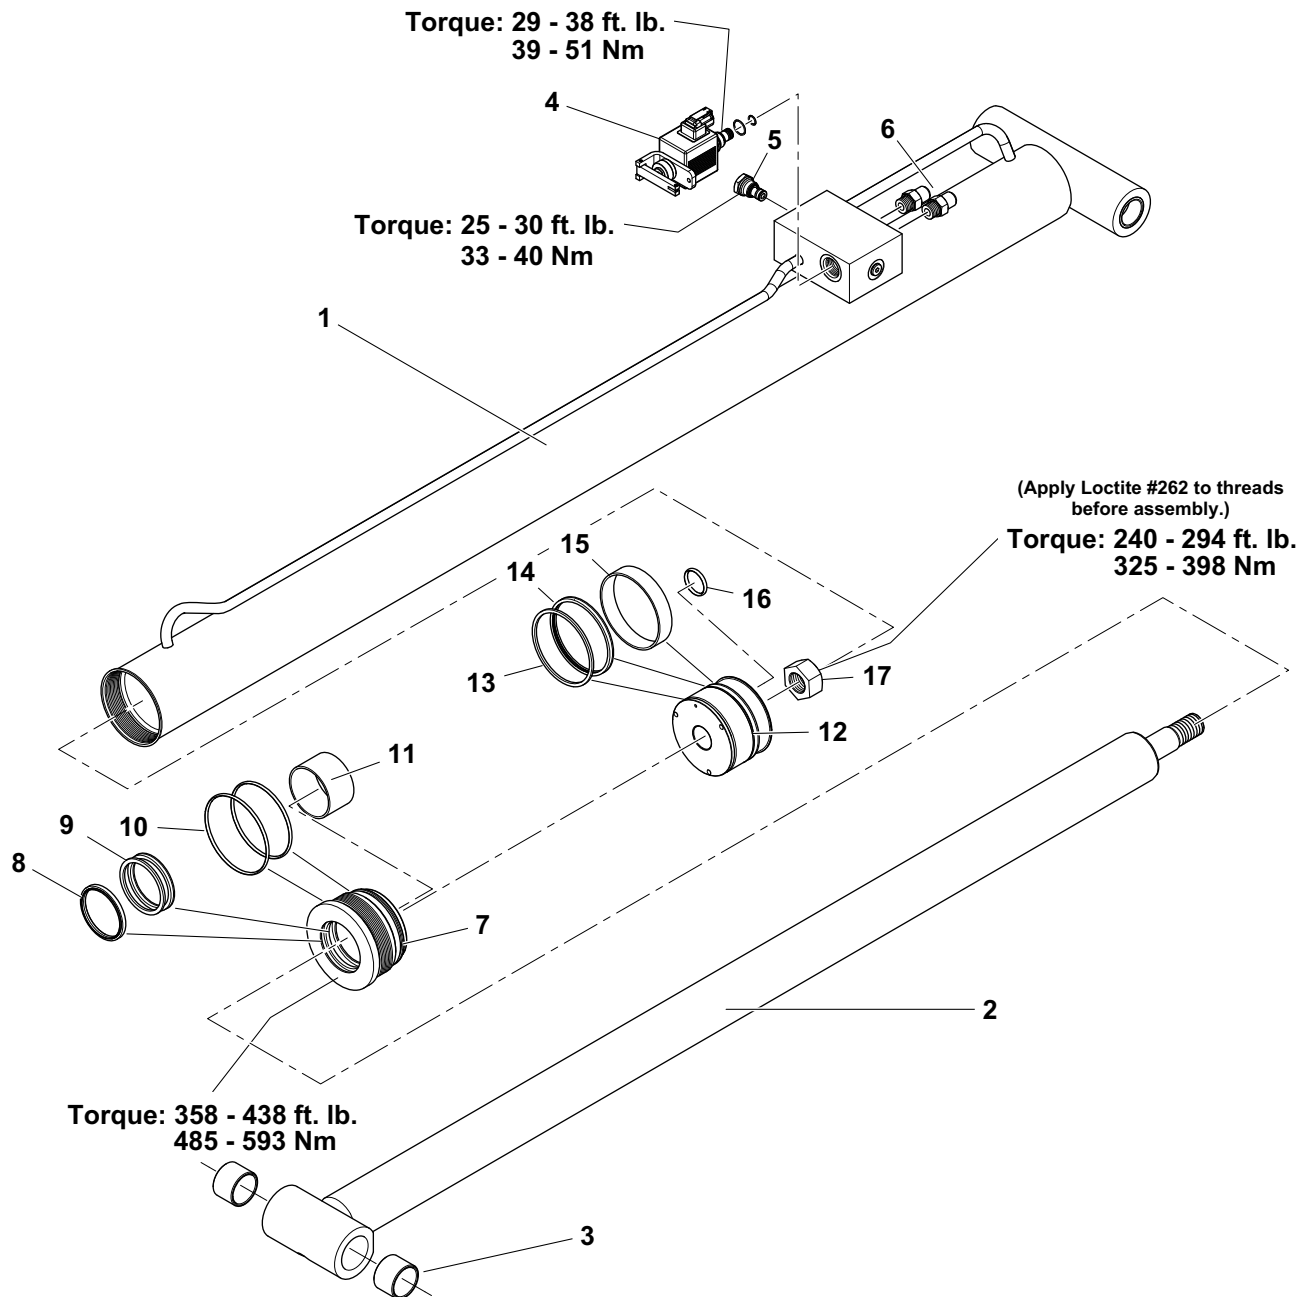
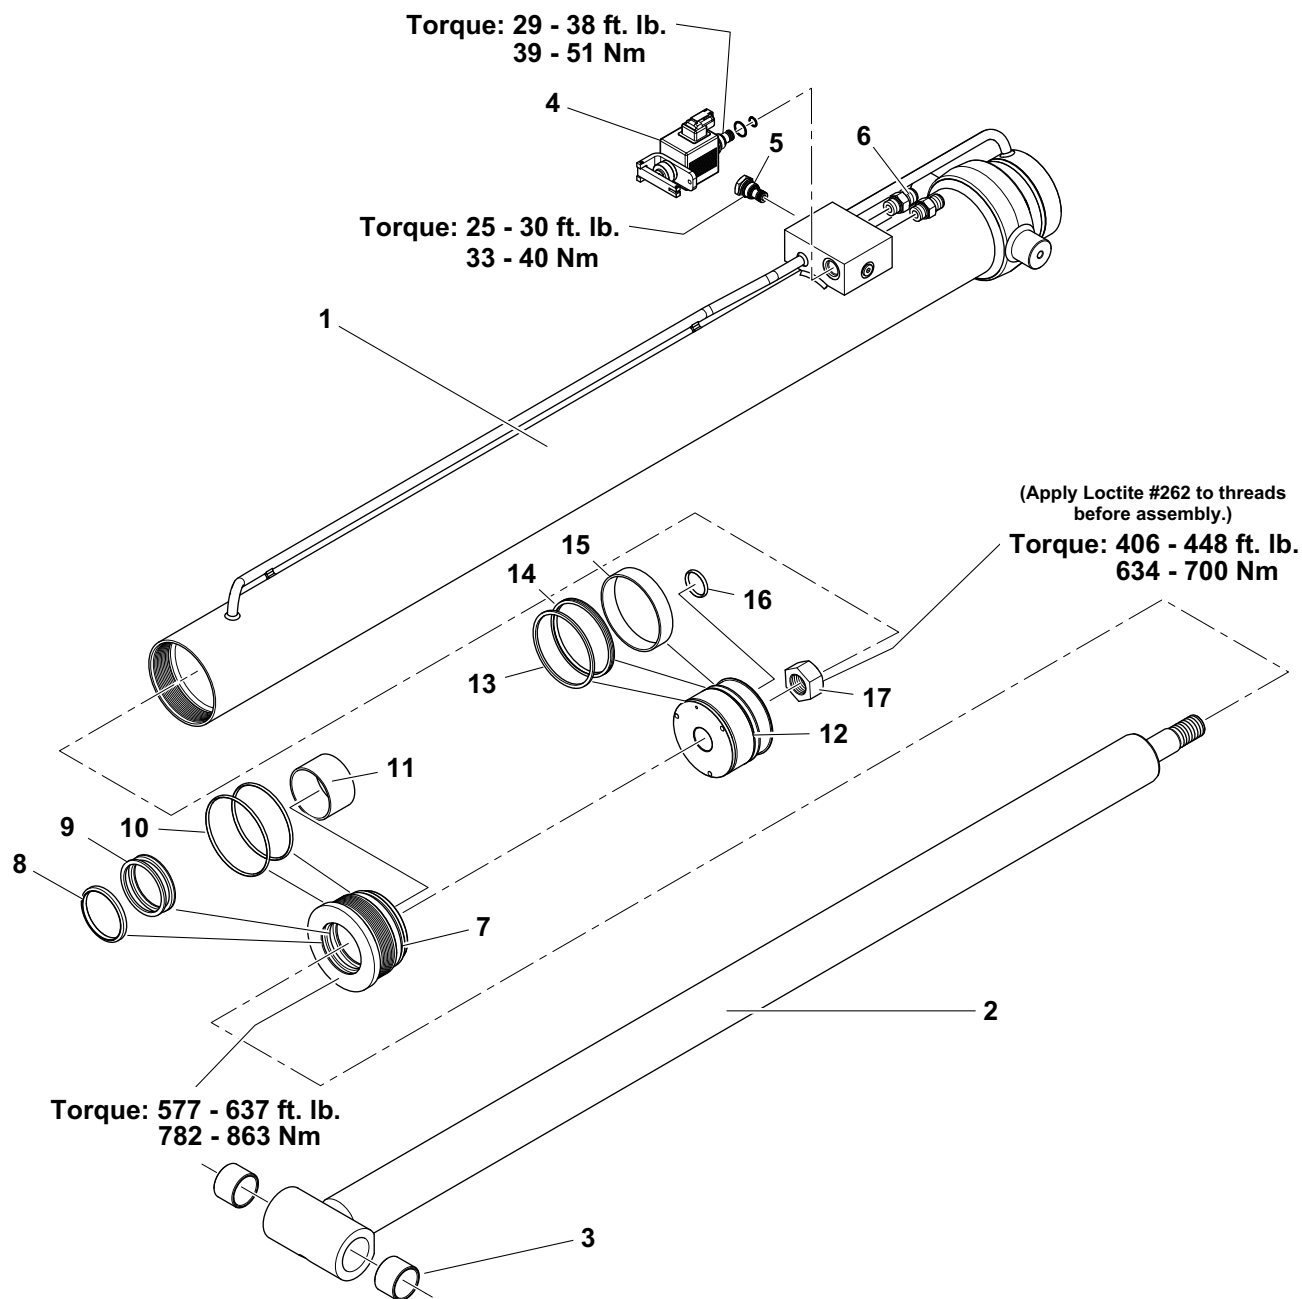

Figure 4-13. 1932RS/6RS - Lift Cylinder
Figure 4-14. 3248RS/10RS - Lift Cylinder
21. If applicable, install the cartridge-type holding valve and fittings in the rod port block, using new o-rings as applicable. (See Figure 4-13., 1932RS/6RS - Lift Cylinder or Figure 4-14., 3248RS/10RS - Lift Cylinder).
29. If applicable, install the cartridge-type holding valve and fittings in the port block using new o-rings as applicable. Refer to Figure 4-13., 1932RS/6RS - Lift Cylinder on page 4-13. or Figure 4-14., 3248RS/10RS - Lift Cylinder on page 4-14